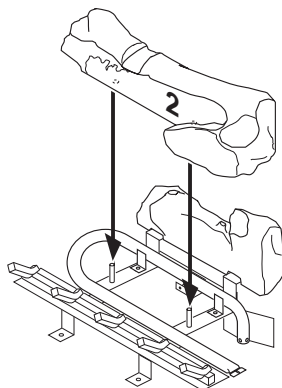

Figure 38 - Installing Log No. 2
3. Rest log #2 (large front log) on the pins on the front part of grate (see Figure 38).